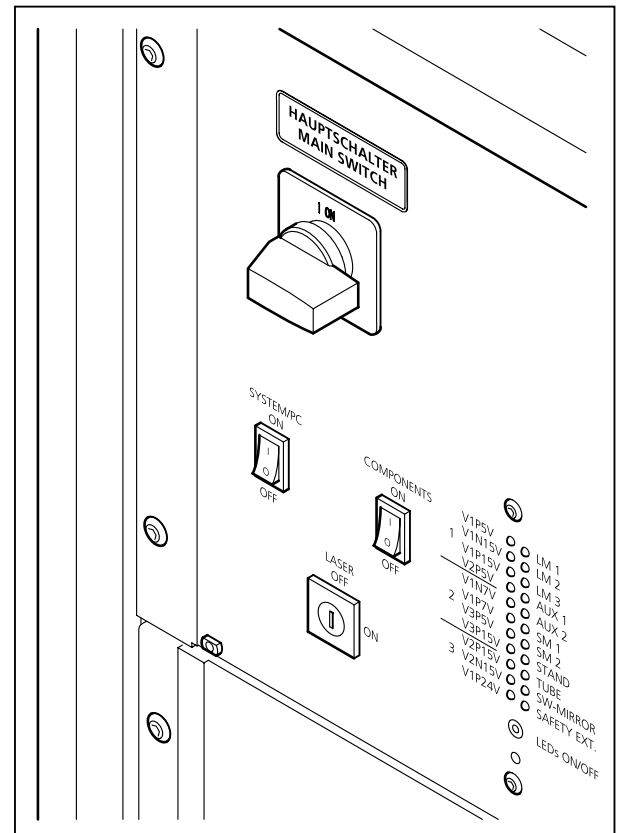

Fig. 1 System rack
- Set the **MAIN SWITCH** on the system rack to **ON** position (Fig. 1).
- When set to **ON** the **System/PC** switch provides power to the microscope and the computer. This allows to use the microscope and the computer without running the LSM Software (Fig. 1).